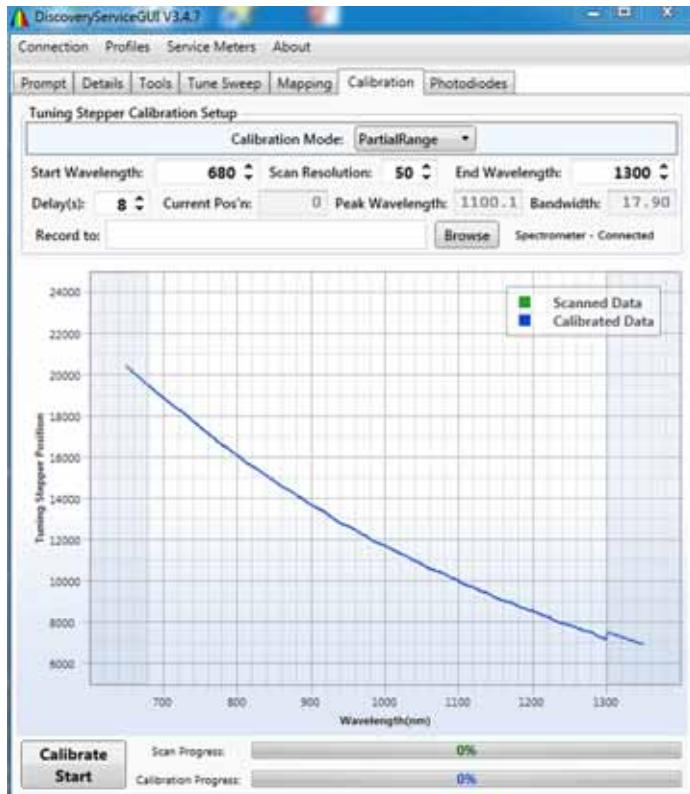

Figure 5.2-1. Partial Range Calibration Mode
2. Switch the Calibration Mode tab to PartialRange. See Figure 5.2-1.